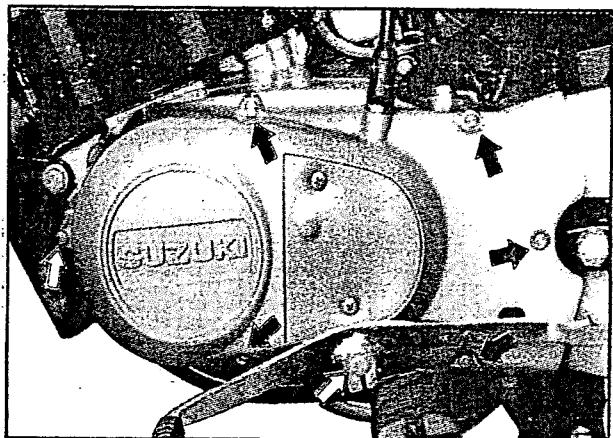

Fig 3.8
- Take off the gearshift lever and magneto cover screws (6 nos) (fig 3.8)